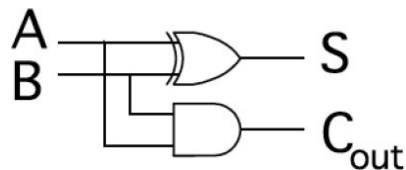

Figure 2: The half-adder
3. The fundamental circuit for computation is the half adder. Figure 2 illustrates the half-adder combinational logic circuit. The output  $S$  is the sum of inputs  $A$  and  $B$ , where  $C_{out}$  represents a carry out. Build this circuit and verify the truth table. Use switches for inputs and LEDs for output(s).